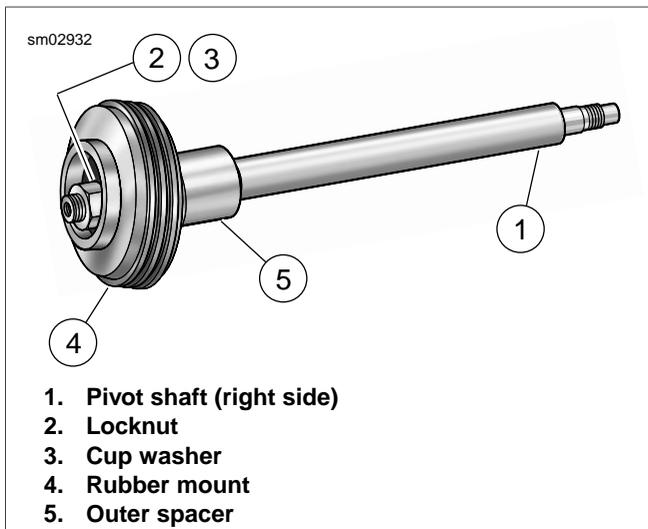

Figure 2-82. Pivot Shaft Assembly
12. See Figure 2-82. Moving to left side, pull pivot shaft assembly (pivot shaft, locknut, cup washer, rubber mount and outer spacer) out of transmission mount and left side swingarm.
1. Partially install locknut on right side of pivot shaft. Install second locknut on right side until it contacts the first. Holding first locknut to prevent rotation of shaft, remove left side locknut. See Figure 2-82.
4. The pivot shaft secures the rear swingarm and transmission to the motorcycle frame. See Figure 2-82. Install the pivot shaft as follows: